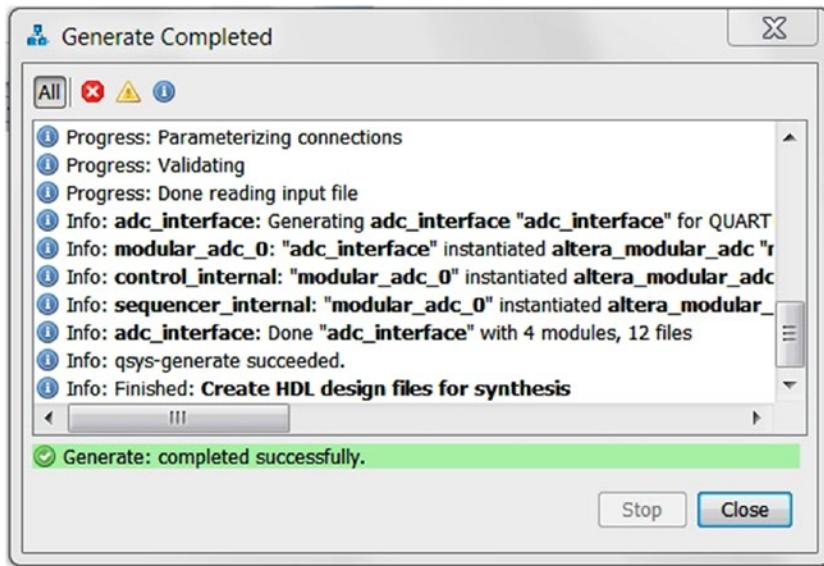
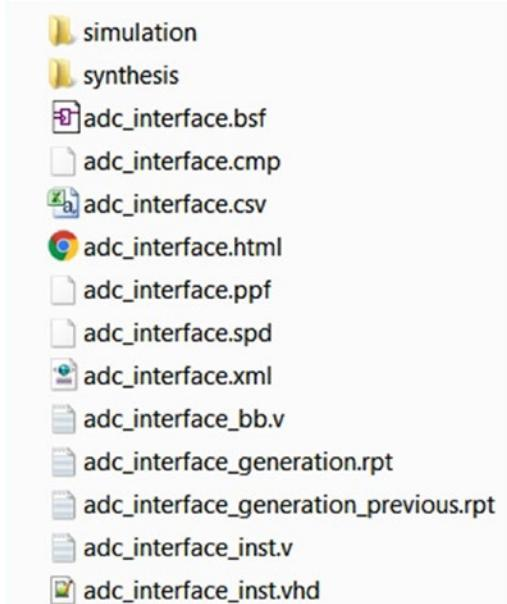

Figure 12-13. Altera Modular ADC core IP generate completed
Figure 12-14. ADC interface—Altera Modular ADC core IP generated file list
Step 7: Generate Completed window (Figure 12-13) will show up after you click the generation in the last step. Next click **Close** on the Generate Completed window and click **Finish** in the IP parameter editor window. Figure 12-14 shows all the files generated by the Altera IP tools. The name of the generated IP is adc_interface.